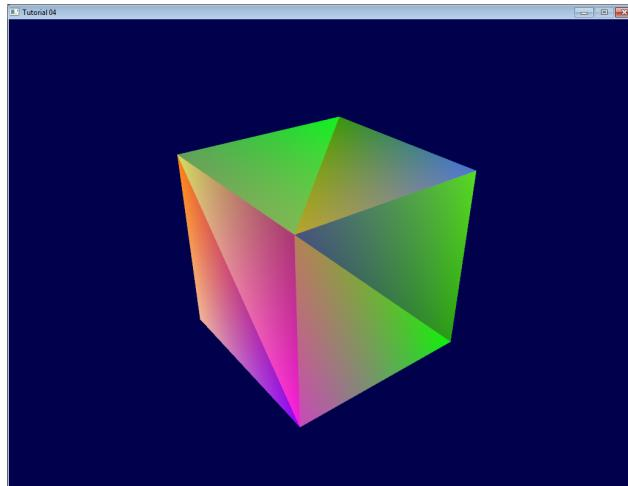

Figure 6.1: Example output of a colored cube.
1. Draw a colored cube and display the cube on screen. Achieve colorful effect by assigning colors to vertices. Your resulted window should look like Fig. 6.1.
2. (Optional) Draw a textured cube and display the cube on screen. You can use any cheetah texture you found online. Your resulted window should look like Fig. 6.1.